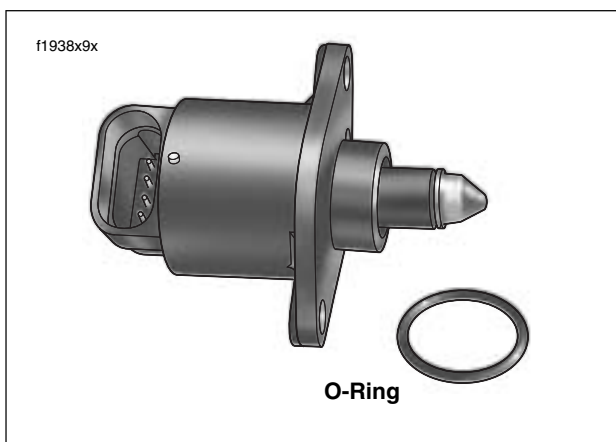

Figure 9-37. Idle Air Control
5. Remove O-ring from body of idle air control. Discard O-ring. See Figure 9-37.